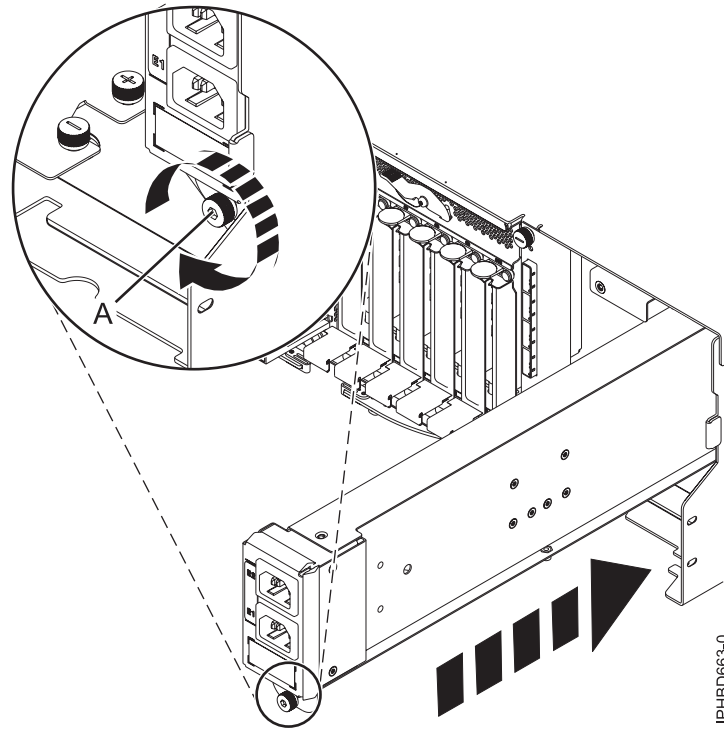

Figure 31. Replacing an input power distribution assembly
5. Push the input power distribution assembly into the expansion unit until it latches into place, and then tighten the thumbscrew (A) to secure the assembly in place as shown in Figure 31 on page 29.